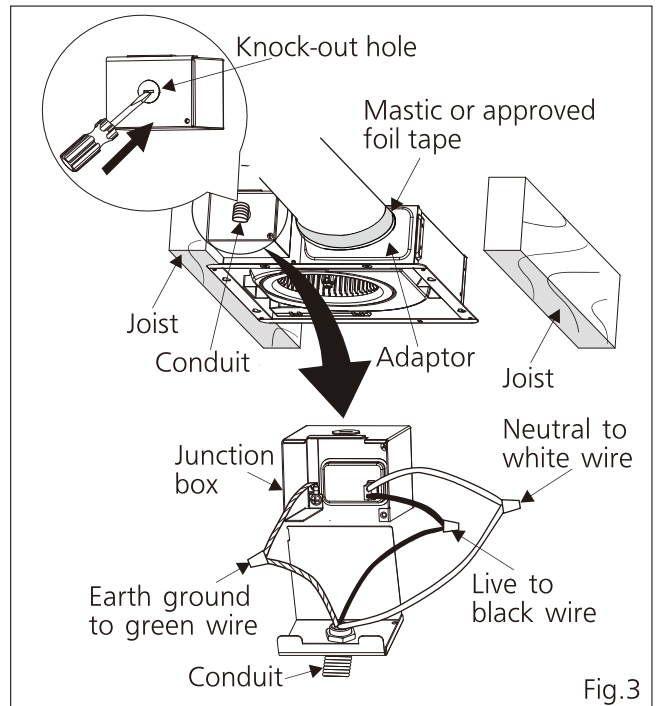

Fig.3
3. Remove junction box cover and secure conduit or stress relief to junction box knock-out hole. (Fig.3)
4. Refer to wiring diagram (P.5), follow all the local electrical safety codes as well as the National Electrical Code (NEC). Using UL approved wire nuts, connect house power wires to ventilating fan wires. (Fig.3)
5. A 4 inch circular duct is needed to connect to the relevant part of adaptor. Squeeze a circular exhaust duct to fit the adaptor, then slip it onto adaptor and secure it with clamps, or ties and seal it with mastic or approved foil tape. (Fig.3)